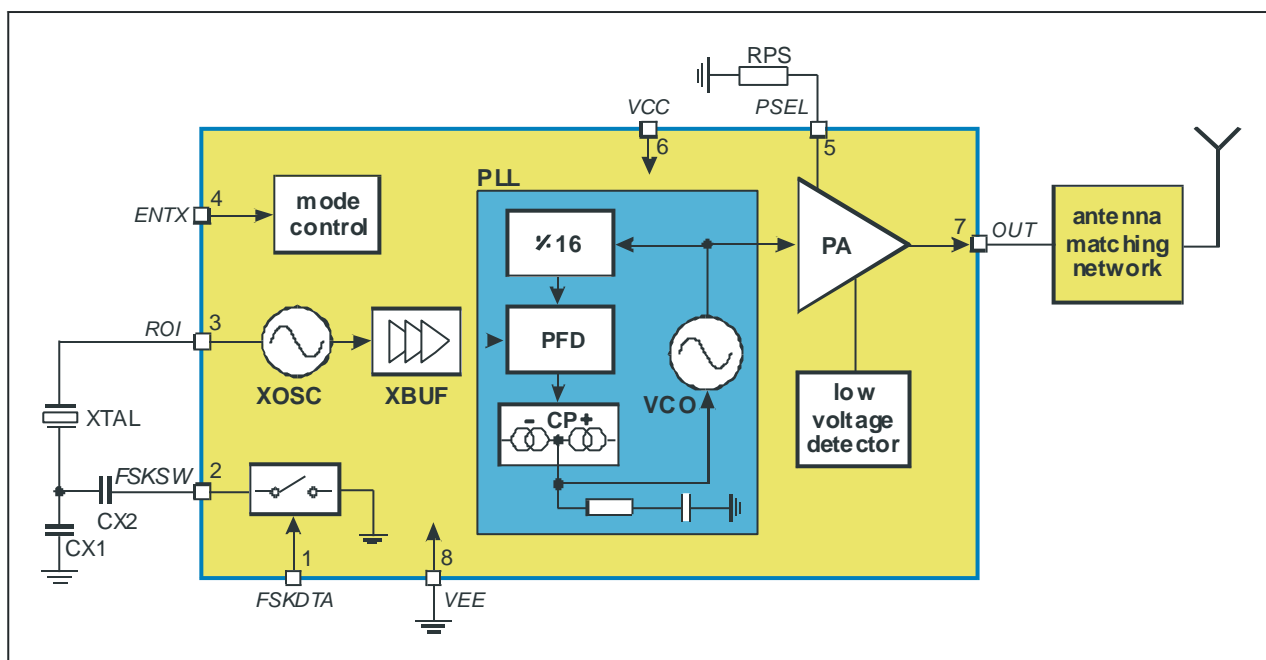

Fig. 1: Block diagram with external components
As depicted in Fig.1, the MLX72013 transmitter consists of a fully integrated voltage-controlled oscillator (VCO), a divide-by-16 divider (div16), a phase-frequency detector (PFD) and a charge pump (CP). An internal loop filter determines the dynamic behavior of the PLL and suppresses reference spurious signals. A Colpitts crystal oscillator (XOSC) is used as the reference oscillator of a phase-locked loop (PLL) synthesizer. The VCO's output signal feeds the power amplifier (PA). The RF signal power P_{out} can be adjusted in four steps from $P_{out} = -14$ dBm to $+11$ dBm, either by changing the value of resistor RPS or by varying the voltage V_{PS} at pin PSEL. The open-collector output (OUT) can be used either to directly drive a loop antenna or to be matched to a 50Ohm load. Bandgap biasing ensures stable operation of the IC at a power supply range of 1.95 V to 5.5 V.